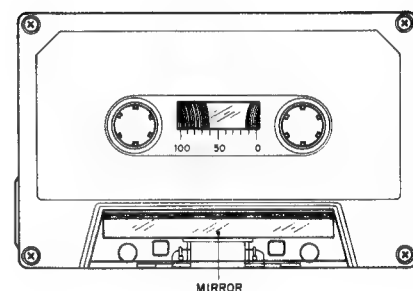

Fig. 10 Mirror Cassette
- 1) When using an ordinary cassette, the tape guides and heads, etc. are not visible. As shown in Fig. 10 use a cassette tape from which part of the cassette case has been cut out and a mirror installed for easy visibility of the head area when making tape guide height adjustment.
4. When a mirror installed cassette test tape as shown in Fig. 10 is required, it can be ordered from AKAI Electric Co.